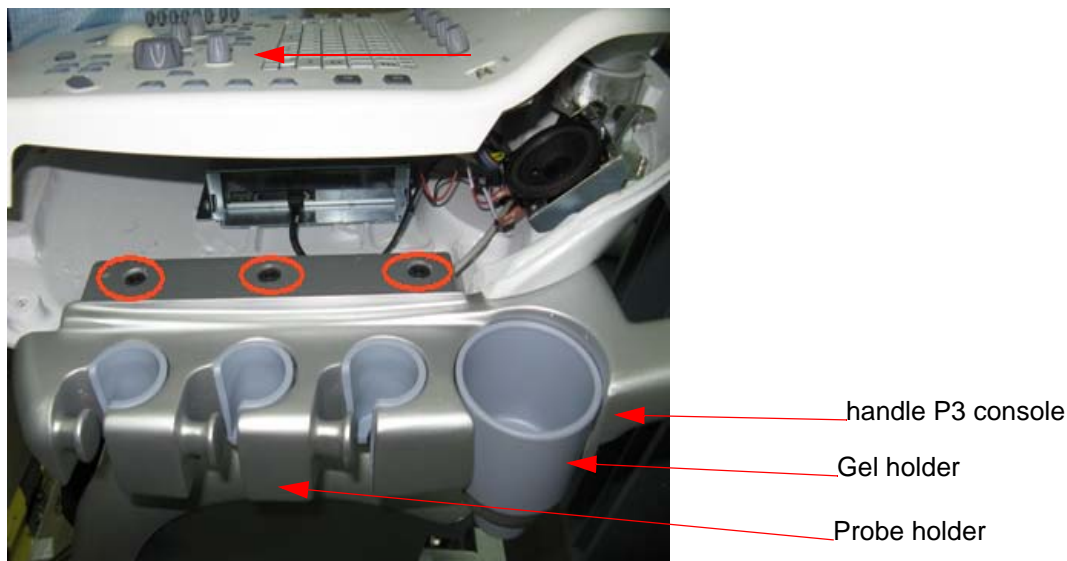

Figure 8-8 Handle P3 console
- 1) Remove keyboard Top cover and Pull out the keyboard top assembly cover by the slot marked in the Figure 8-8 on page 8-9
marked (1,2,3) in the Figure 8-8 on page 8-9